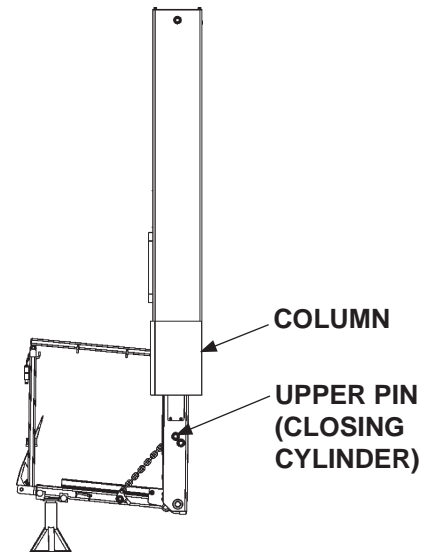

FIG. 19-1
1. **UNFOLD** the platform. Lower the platform (**DOWN**) to comfortable height for work. Upper pin must be lower than the bottom of the column (**see FIG. 19-1**).